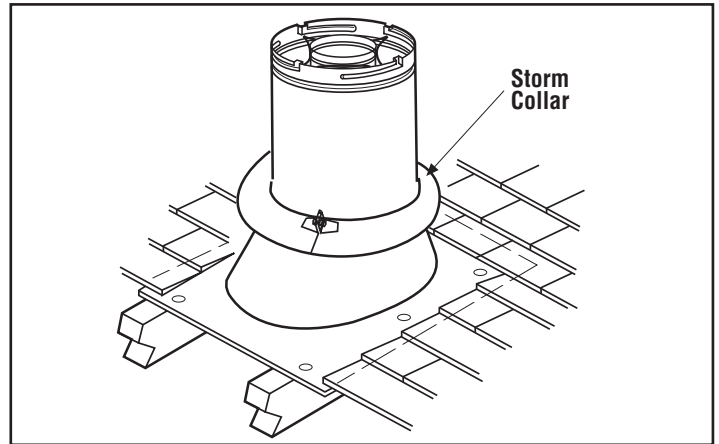

Figure 20 - Installing the Storm Collar
11. **Install the storm collar**—Install the storm collar, supplied with the flashing, over the vent/flashing joint (Figure 20). Loosen the storm collar screw. Slide collar down until it meets the top of the flashing. Tighten the adjusting screw. Apply non-combustible caulking or mastic around the circumference of the joint to provide a water tight seal.